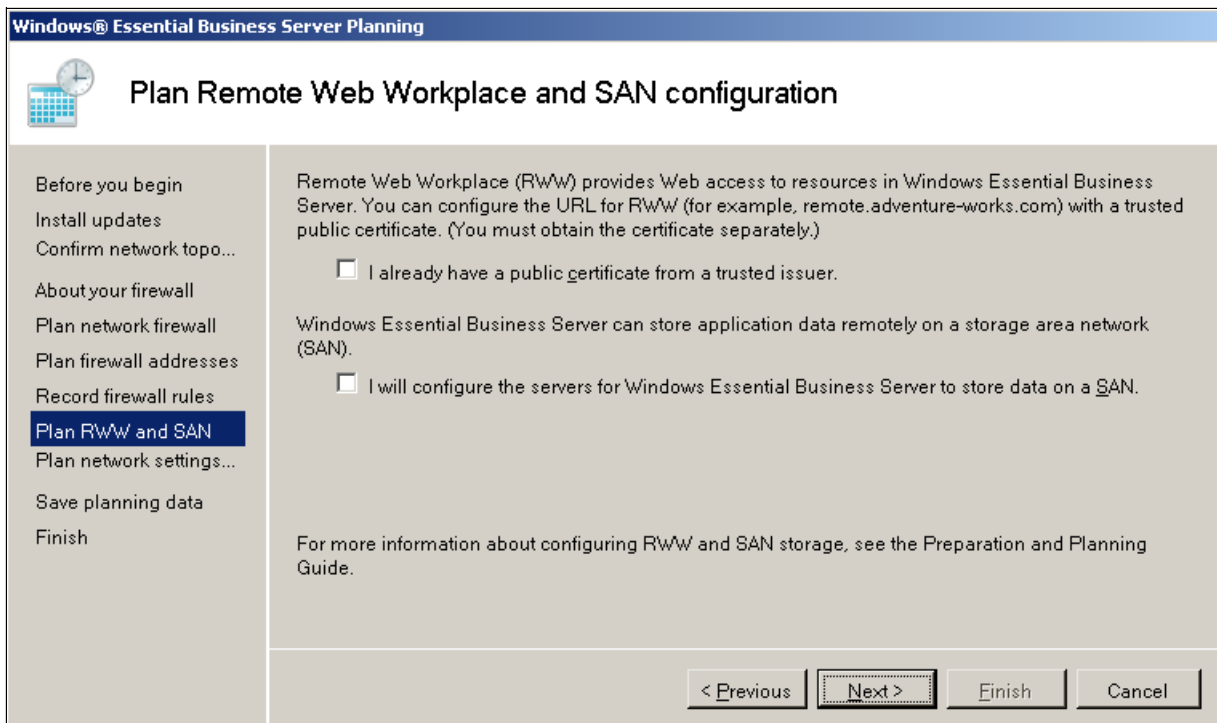

Figure 3-15 Remote access and storage area network configuration
7. Configure Remote Web Workplace (RWW) Windows Essential Business Server functionality on the “Plan Remote Web Workplace and SAN configuration” panel (Figure 3-15).